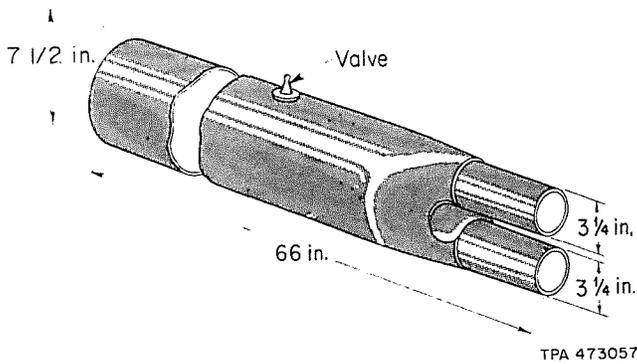

Fig. 2—D Splice Cover
**2.02** The D Splice Cover (Fig. 2) is a rubber cover 66 inches long available in a 7-1/2 inch diameter at one end and openings for 2 cables not to exceed 3-1/4 inches on the other end. This closure is used over a branch splice.